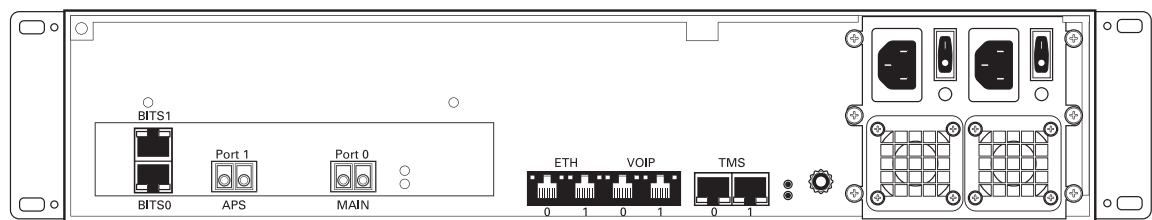

Figure 2.8 Optical Interface to the PSTN
A TMG7800-STM-1, with one main and one backup OC3 or STM1 port enables connection to OC3/STM1 lines. See figure 2.8 on page 23. Refer to table 2.2 on page 23 for a listing of optical interfaces. The default SFP module for OC3/STM1 connection is SMF, intermediate reach, (SFP-OC3-IR1) 1310 nm with LC type connectors.
1. Connect a fiber optic cable between the Port 0 (Main) port and OC3/STM1 line, as shown in figure 2.8 on page 23.